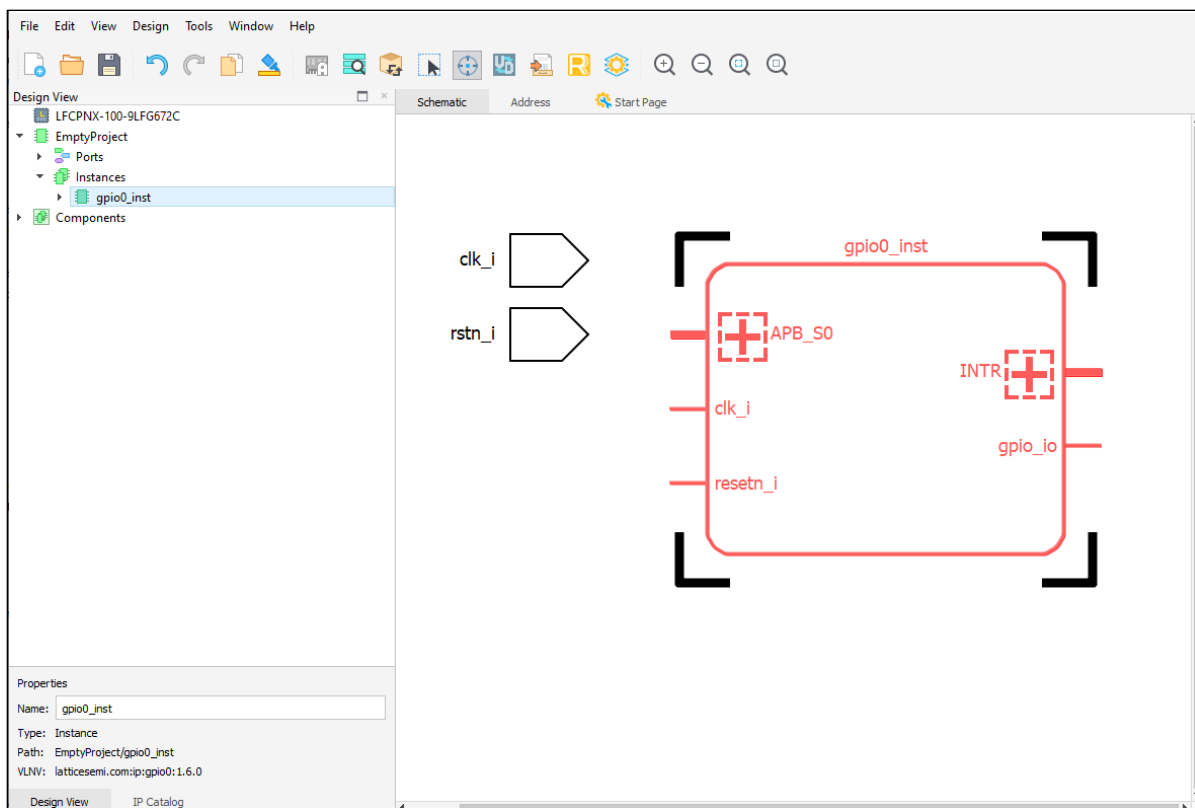

Figure 2.64. Locate Objects
2. Select the object in the List view of the Design View. The selected object is in the center of the Schematic View (Figure 2.64).